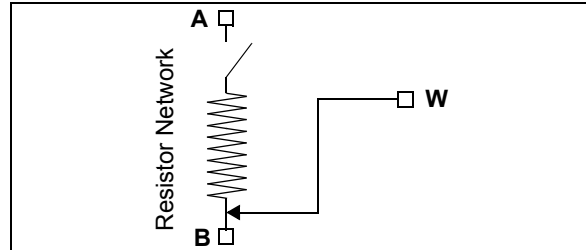

FIGURE 5-11: Resistor Network Shutdown State (R0HW = 0).
- The P0W terminal is simultaneously connected to the P0B terminal (see Figure 5-11)